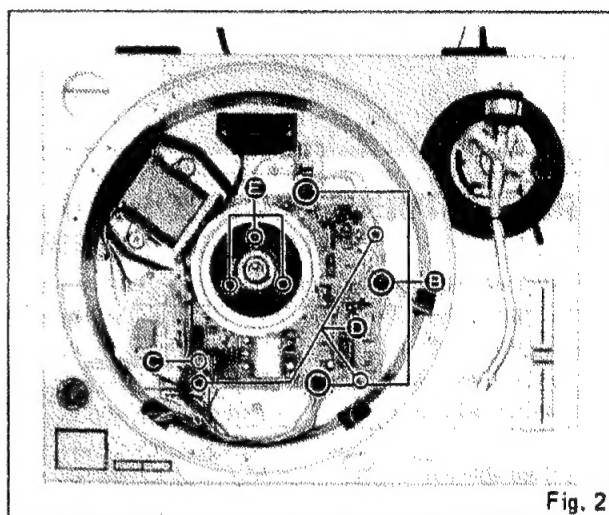

Fig. 2
4. Remove 3 connectors **B** and 2 read wires **C** from power transformer as shown in Fig. 2.
5. Remove 3 screws **D** of the drive circuit board and 3 screws **E** of the stator frame cover as shown in Fig. 2.